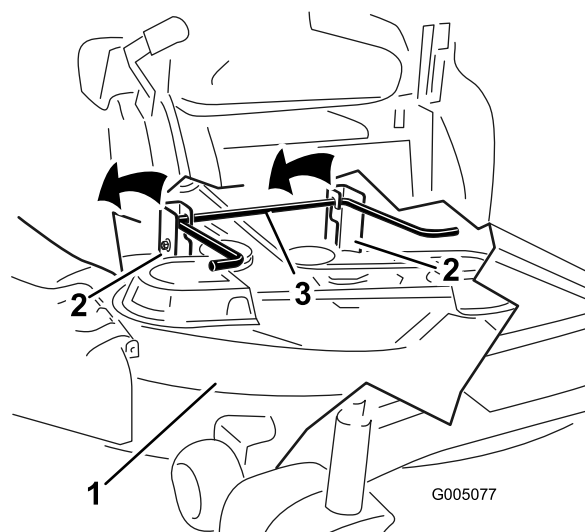

Figure 65
5. Lift the mower deck and hanger brackets clear of the rear lift rod and lower the mower carefully to the ground (Figure 65).
- Lift the rear of the mower deck and guide the hanger brackets over the rear lift rod (Figure 65).